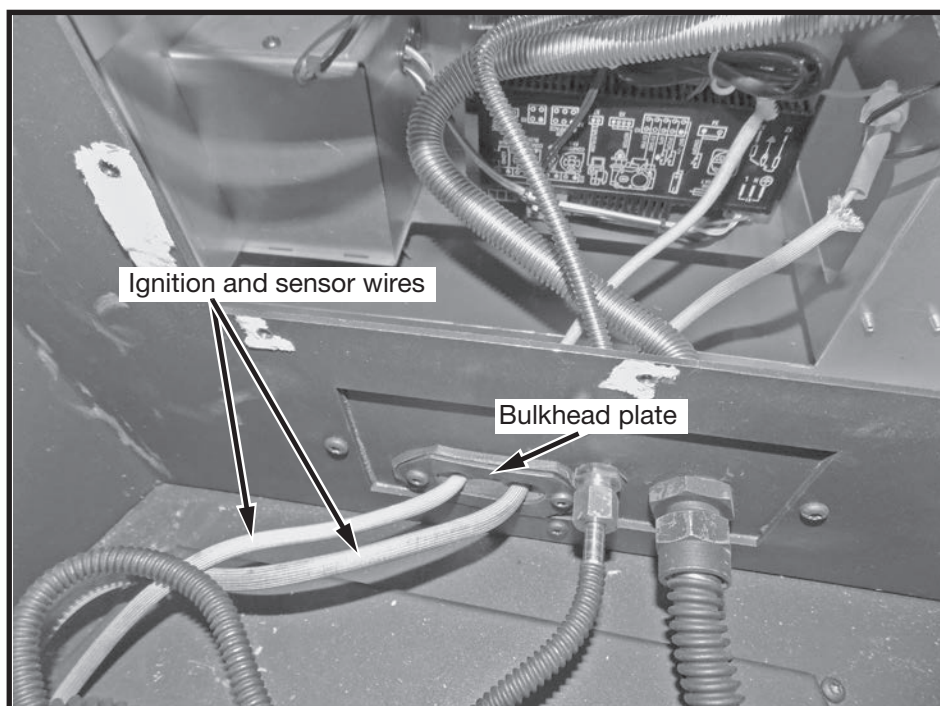

Figure 13: Ignition and sensor wires routing.
11. Feed the ignition and sensor wires through the bulkhead plate and gasket to the firebox (Figure 13).